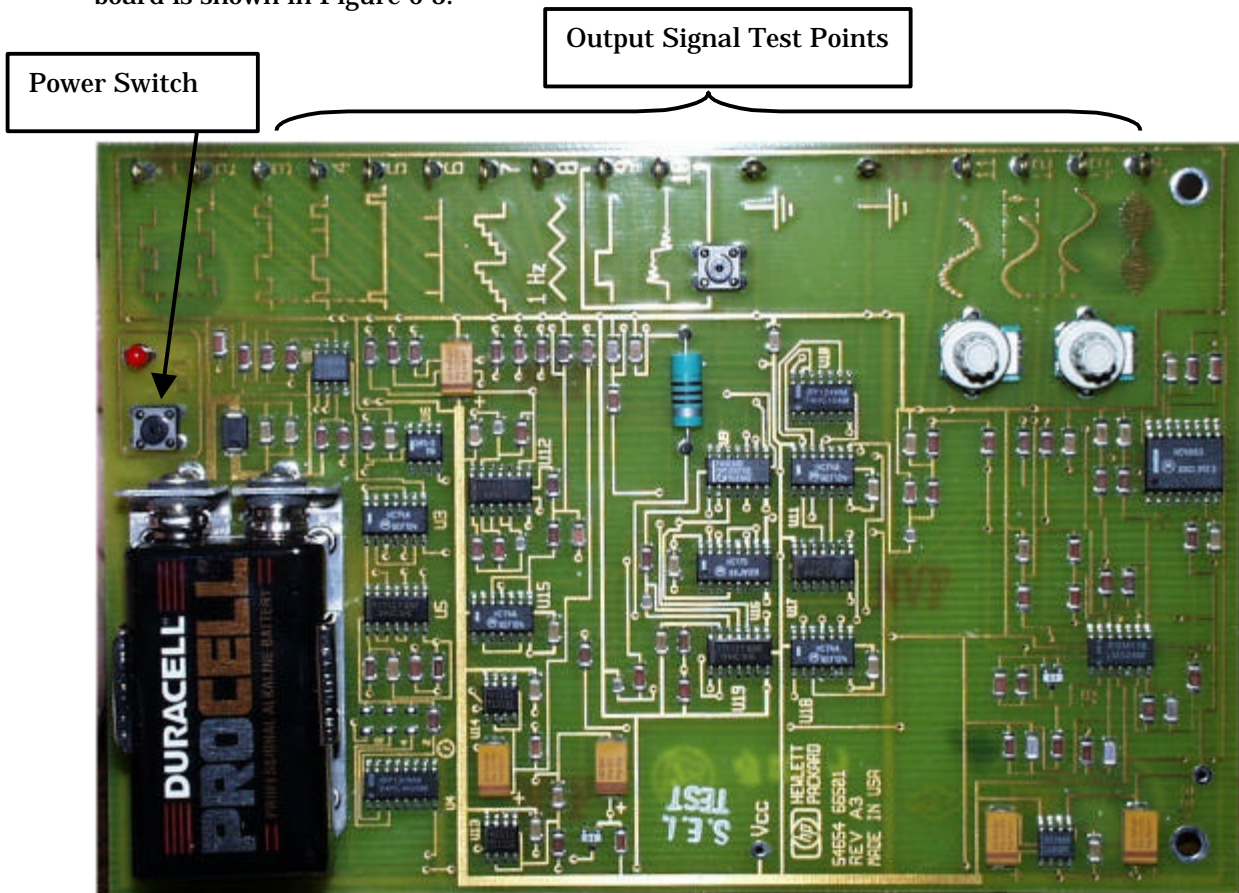

Figure 6-3: HP 54654A Training Kit
Let's acquire a waveform from a real-world circuit. The HP 54654A Training Kit is designed to produce various waveforms for oscilloscope study. You'll notice that this kit is contained on a printed circuit (PC) board. Handle it carefully, since its components are exposed. This board is shown in Figure 6-3.